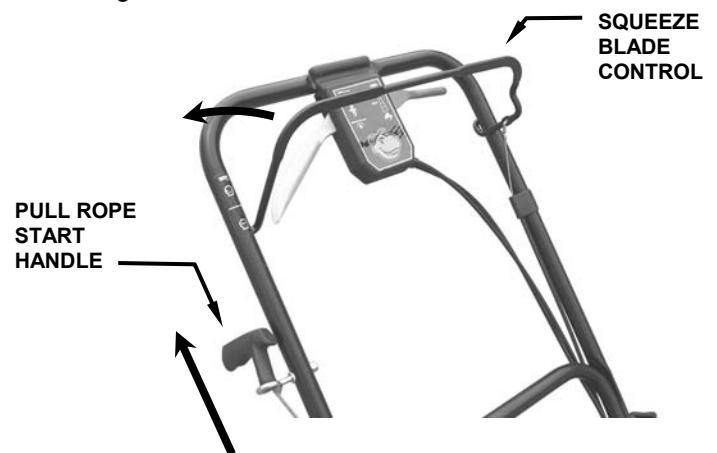

FIGURE 2.4
2. Pull blade control against handle. See Figure 2.4.
Pull rope start handle to crank engine. See Figure 2.4.